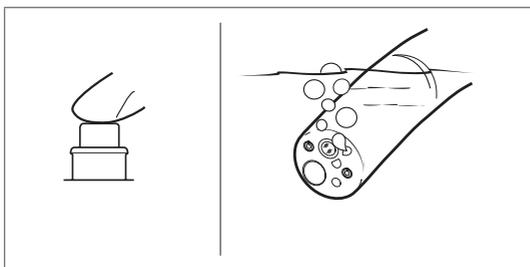

Figure 3.8
5. Insert the distal end of the fiberscope into sterile water and gently cover the air hole on the Air/Water feeding valve of the fiberscope. Check whether air comes out of the distal end of the fiberscope and air bubbles are generated (Figure 3.8).